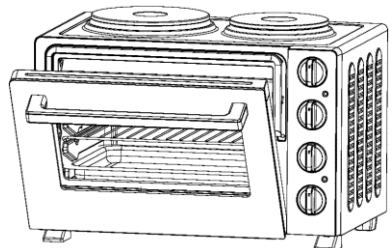

Fig. 12
9. If grilling or toasting leave the oven door ajar (fig. 12).